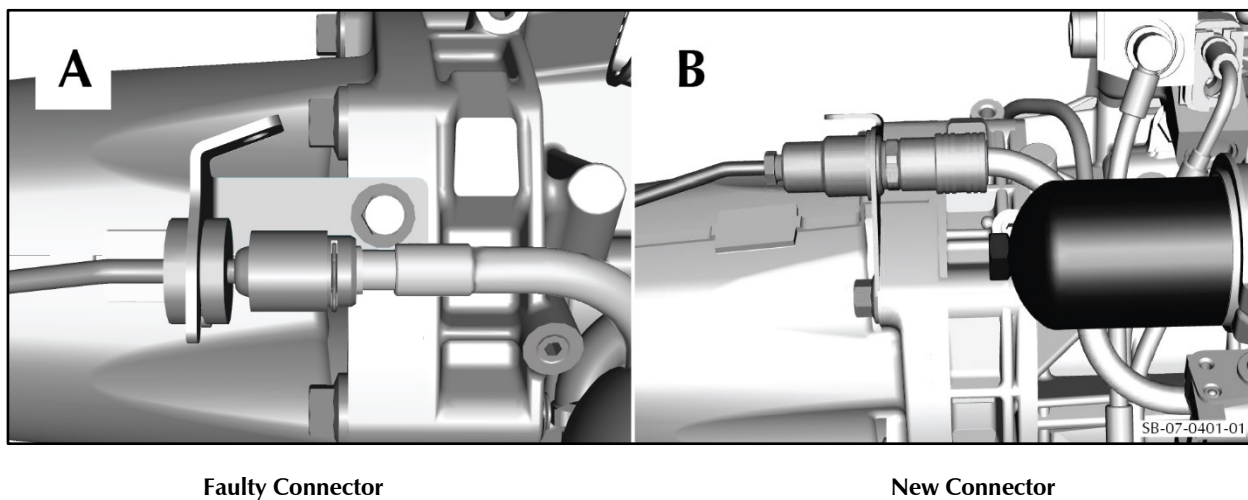

Figure 3
Note: *It is possible that a vehicle has had the connector replaced before by Service Bulletin SB-07-0401. Refer to Part A of this procedure. If the installed connector is type B shown in Figure 3, you do not need to do this workshop procedure.*
3. If the connector is the same as type "A" shown in Figure 3, continue from Part B.
4. If the connector is the same as type "B" shown in Figure 3, you do not need to do more work.